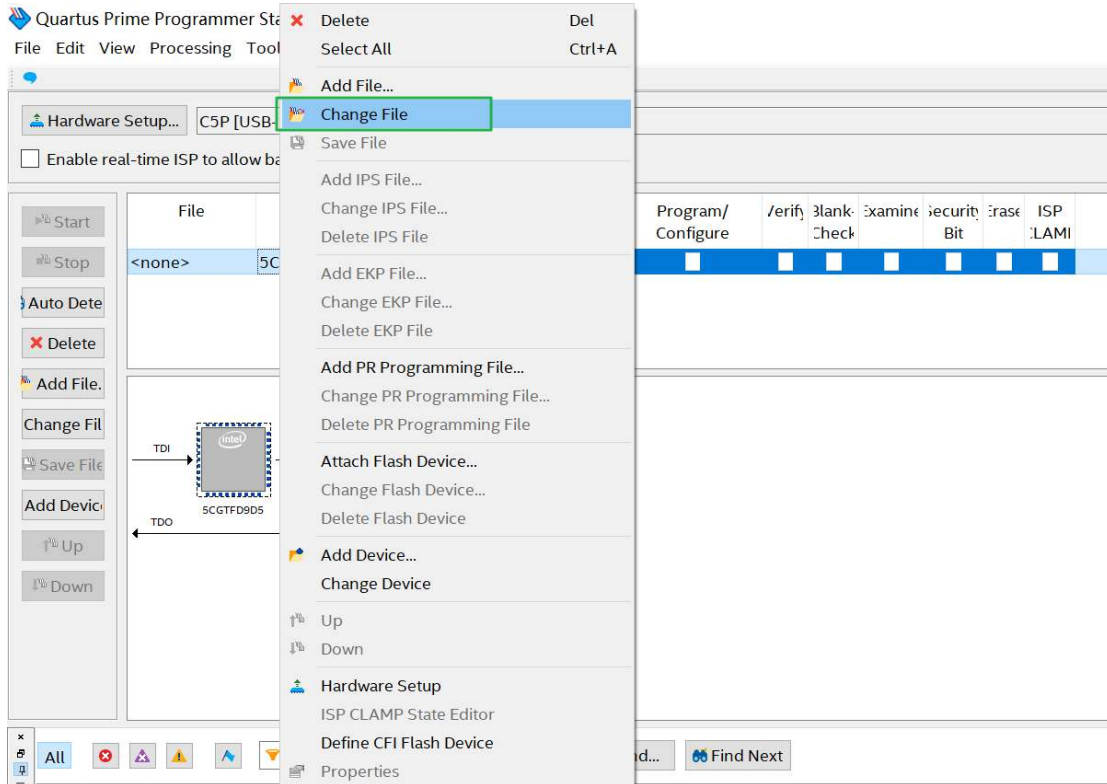

Figure 3-7 Open the .sof file to be programmed into the FPGA device
4. Right click on the FPGA device and select Change File to open the .sof file to be programmed, as highlighted in **Figure 3-7**. Note that, FPGA for the GX device version of the TSP board can also use the FPGA code of the GT device to configure FPGA.